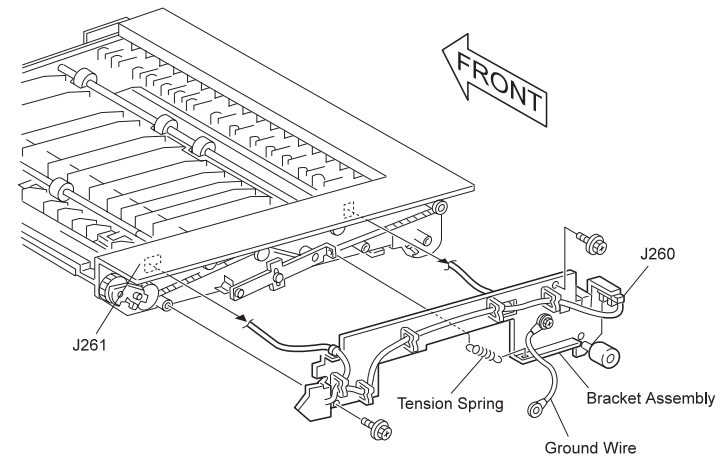

Figure 1
2. Remove the Tension Spring. (Figure 1)